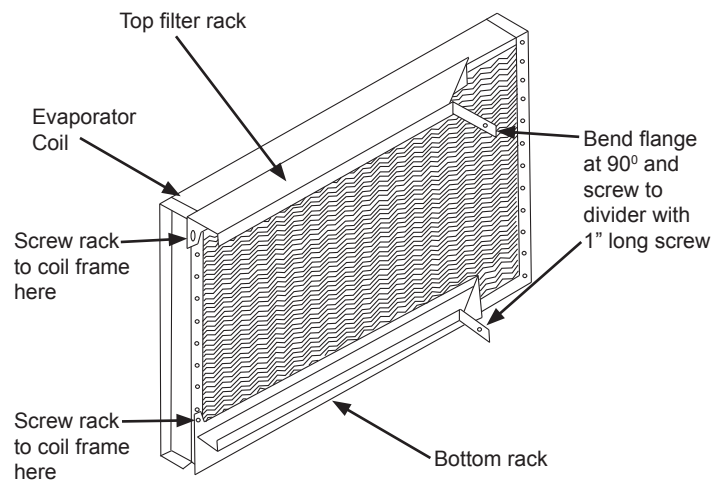

Fig. 1 - Filter Rack
4. Install the top filter rack in the HVAC unit next to the indoor coil. Bend flange by hand at 90 degrees - Fig.1. Screw left side of rack in to 4th hole down on coil frame. Use only 1/2" (12.7mm) long blunt end screws. Screw bent flange to unit side panel using 1" long self-drilling screw provided. If using 2" (50.8mm) filter the filter spacer must be removed.
- NOTE: The filters are accessible through the return duct cover. Install the bottom filter rack. Bend the tab to 90° as shown in Fig. 1. Slide the rack to the far left side (when facing the coil) of the HVAC unit. Set the rack in front of the coil and screw the left side of the rack to the coil frame through the pre-punched holes. Maximum screw length 1/2" (12.7mm). Screw the bent flange to the unit side panel using 1" long self-drilling screw provided.
13. Remove the filter access panel (horizontal return panel) and install disposable filters in filter rack behind filter clips. Fig. 1. See Table 2 for filter sizes.